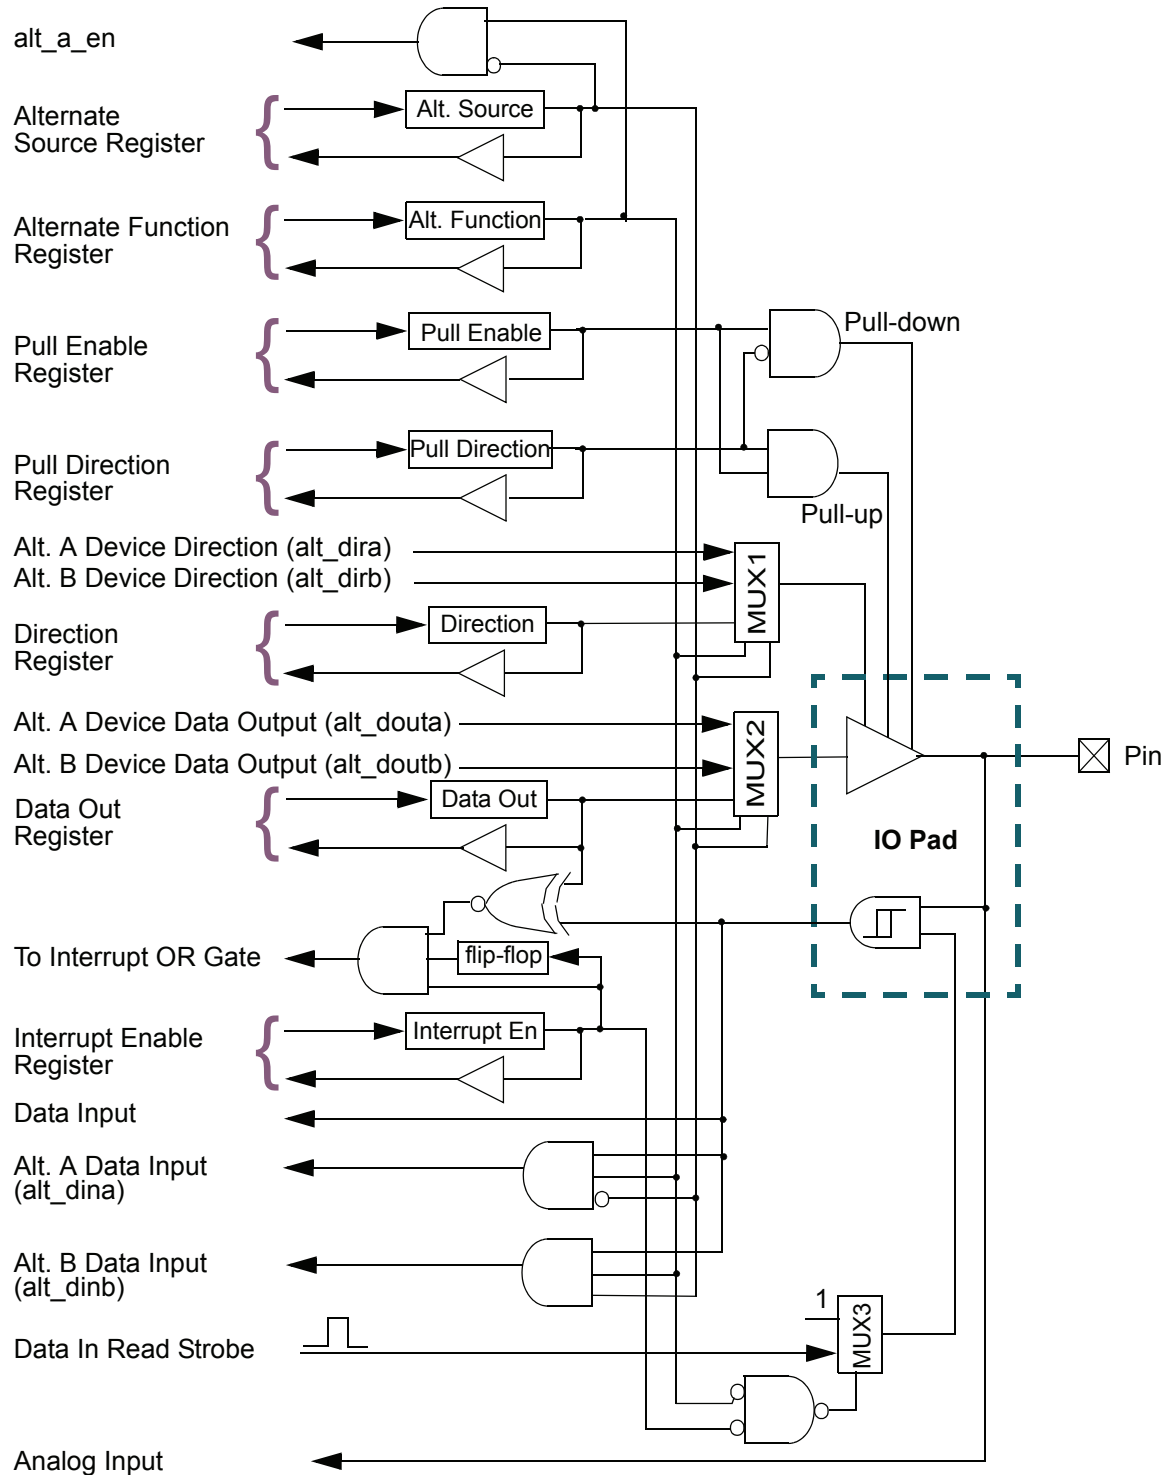

FIGURE 1: GPIO BLOCK DIAGRAM
**Figure 1** is a block diagram of the GPIO. The GPIO controls an I/O pad that supports the features listed below.